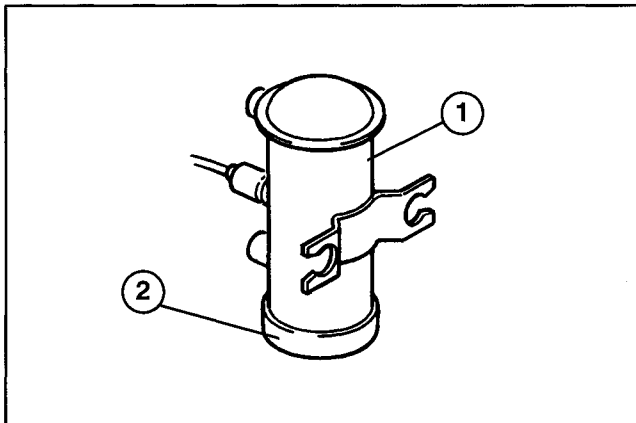

Figure 47
1. Fuel pump (Fig. 47) is located on inside of left frame channel below tool box.